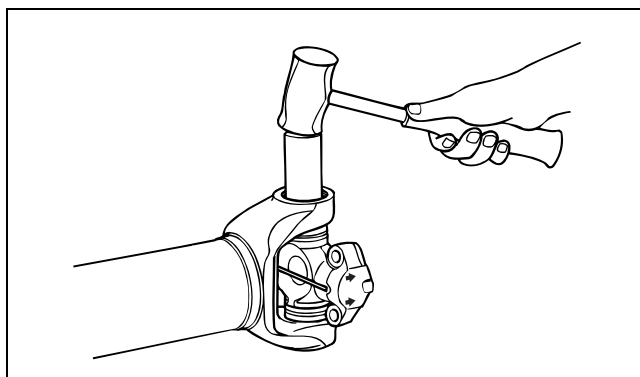

Figure 4.5
2. If necessary, use a brass drift and lightly tap the center of the bushing to assist in snap ring removal. Figure 4.5.